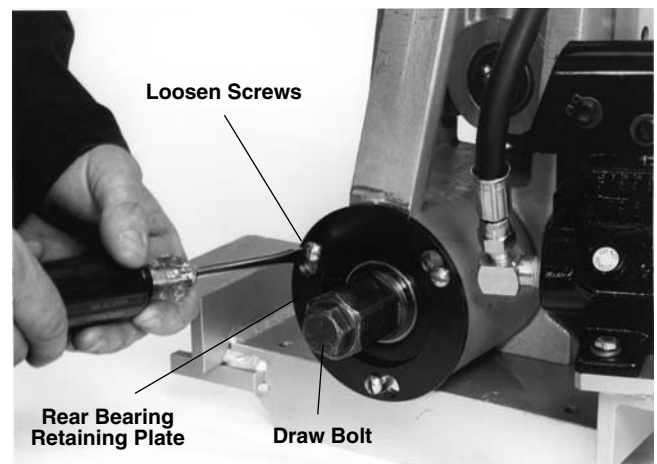

Figure 21 – Loosening Draw Bolt and Retaining Plate Hex Screws
- With the spindle lock engaged, use a wrench to loosen the draw bolt (Figure 21).
- Remove the three 1/4" bolts that hold the retaining plate in place, remove retaining plate, remove bearing (Figure 21).